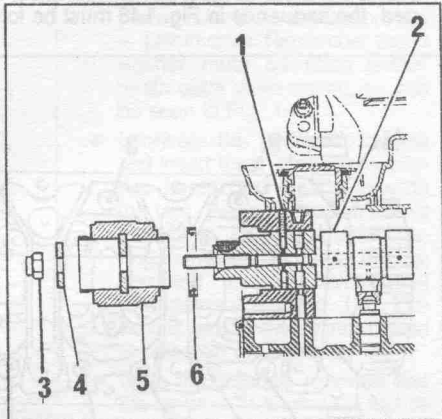

Fig. 1.44. — Fitting the camshaft oil seals. An arrangement of tube, washer and nut can be used to fit the seals.
- Lubricate new camshaft oil seals with engine oil and fit them over the shaft ends and into the cylinder head. Fig. 1.44 shows how the seal can be pulled in position. Fit the seal on the other side in the same manner.